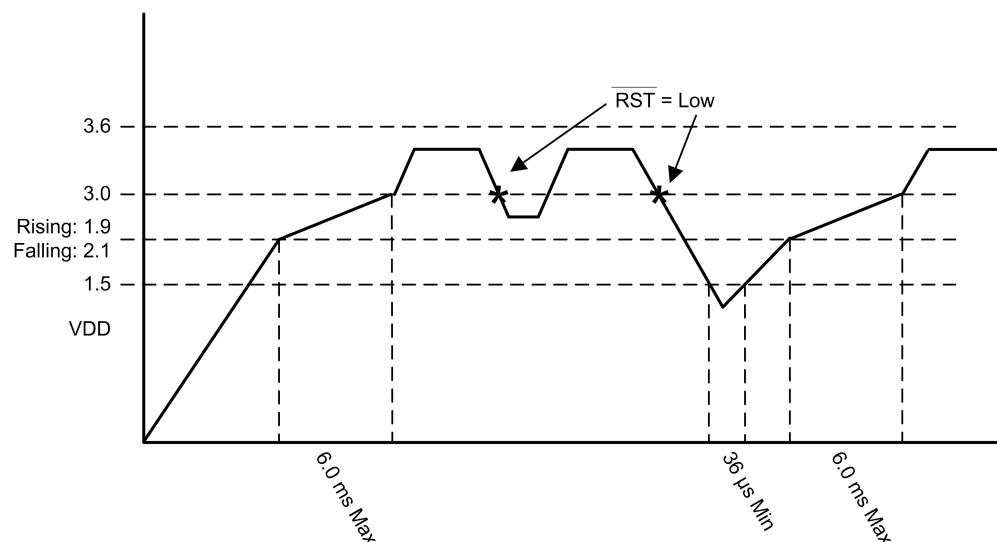

Figure 3. VDD Waveform Signature Limits
1. The VDD power-up, steady state, and power-down waveform meets the timing requirements shown in Figure 3.